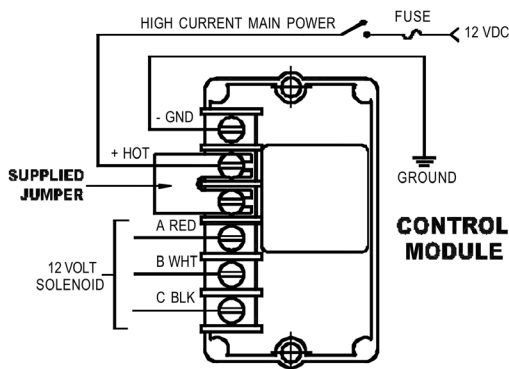
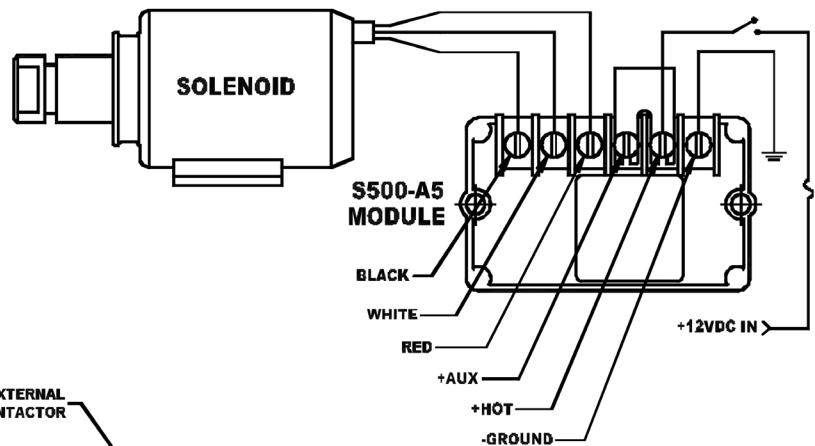

Figure 2
Figure 3
**Figure 1** is a typical wiring diagram for a S500-A5 module. **Figure 2** is a typical wiring diagram of the module wired through the supplied jumper for a 12 volt application. **Figure 3** is a typical 24 volt application with a customer supplied external contactor. It is recommended that a properly sized fuse be used in the circuit. The size of the fuse is dependent on the solenoid model used. Please call or email Trombetta for fuse size assistance.